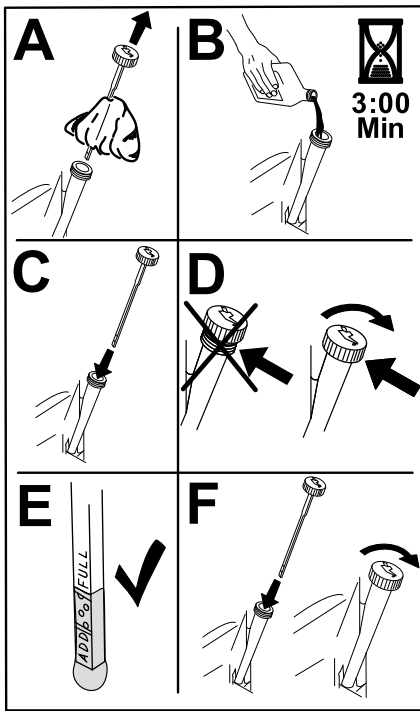

Figure 51
6. Slowly pour approximately 80% of the specified oil into the filler tube and slowly add the additional oil to bring it to the Full mark (Figure 51).